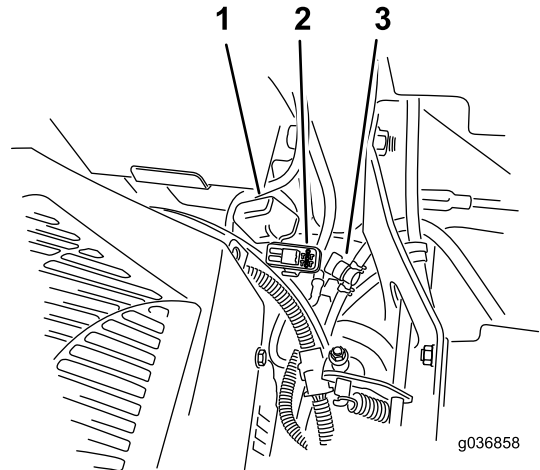

Figure 76
**Note:** For MyRide machines, ensure that the ground cable does not rub against the trailing arm or lower shock mount (Figure 76).
The fuses are located on the right console next to the seat (Figure 76).
2. Install a new fuse (Figure 76).